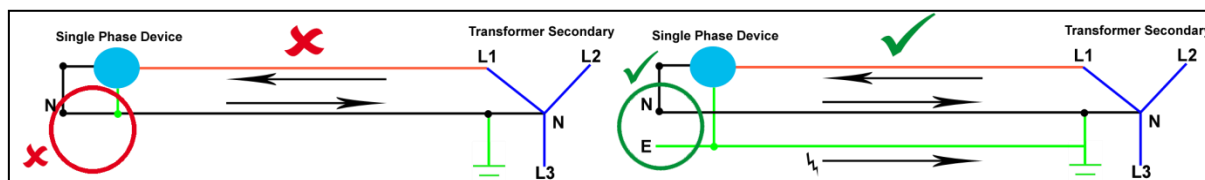

Figure 3- Separation of Earth & Neutral Conductors
Use braided (double) shielded cables (Figure 3) for your control or signal cables.
- Use braided (double) shielded cable (Figure 3) as described above.